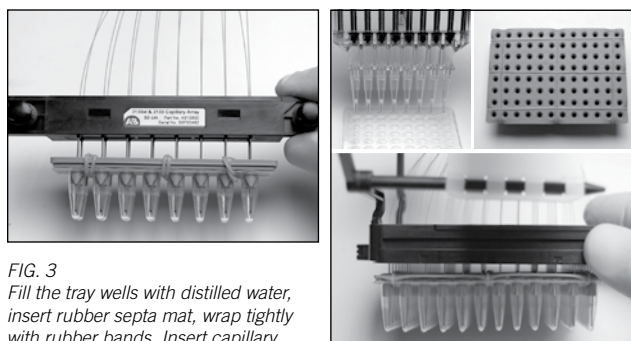

FIG. 3
- B. A convenient way to store and ship the capillary ends wet is the use of a **WetPack**. A WetPack consists of two components: a 96 Well Plate (CAT# MAP3196C) and a 96 Well Septamat (CAT# SEP96-20). Both can be cut down to desired size. Fill the plate with ddH₂O; attach the septamat; then secure the two pieces together with three rubber bands (FIG 3). Next, carefully insert the capillary ends through the septamat. For shipping, this method will prevent wasting a lot of water as the water does tend to spill and splash over the array while in transit. A WetPack is not required, but this step does generally produce the best results for array regeneration.